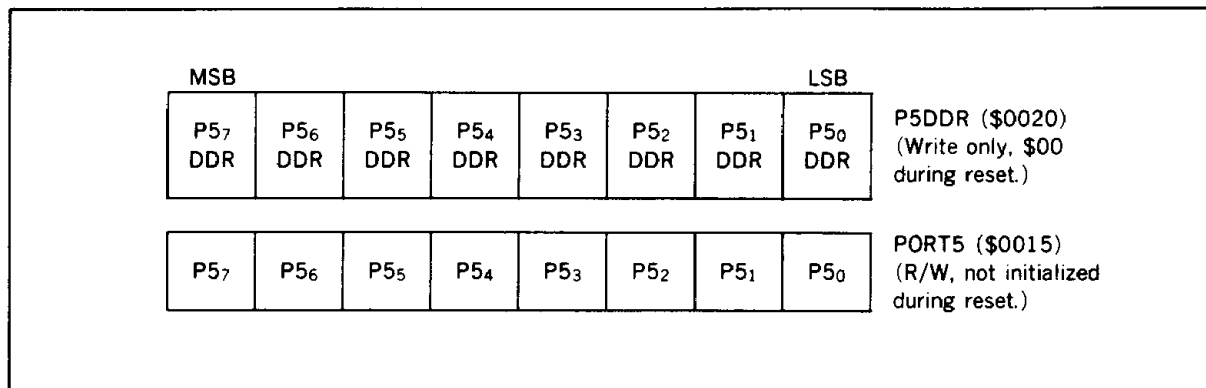

Figure 18. Port 5 Register and Data Direction Register
**Port 5** : Port 5 is an 8-bit I/O port (figure 17). Each bit of the DDR (\$0020) defines the data direction of the corresponding bit of port 5 (figure 18). Port 5 can drive one TTL load and 30 pF capacitance.